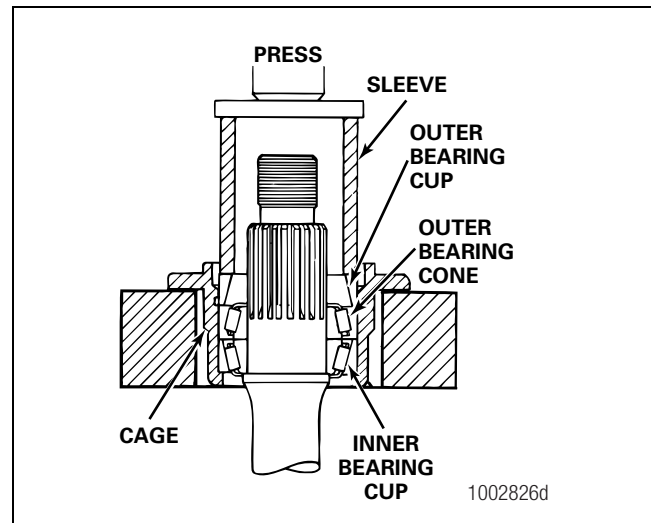

Figure 5.90
4. Use a press and sleeve to install the outer bearing cup into the cage over the thru-shaft. Figure 5.90.